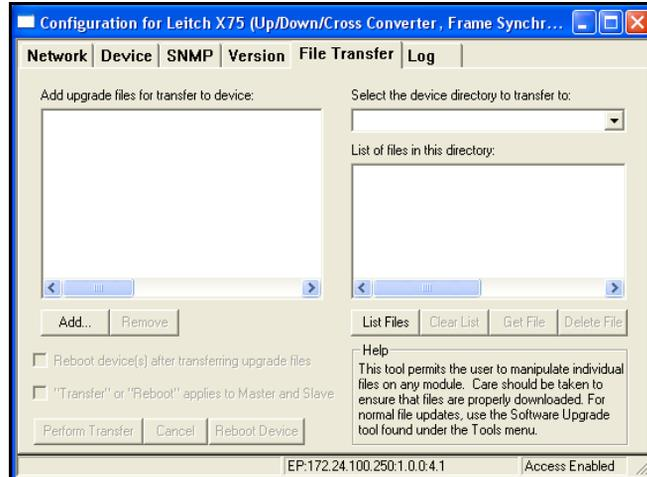

Figure 8-12. File Transfer Tab
3. In the **Configuration for...** dialog box, click the **File Transfer** tab (see Figure 8-12).